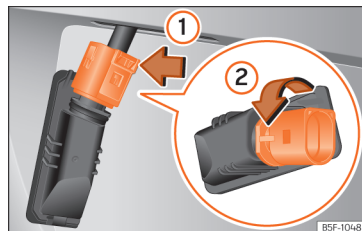

Fig. 119 Number plate light: detach the bulb holder.
3. Turn the connector lock »» Fig. 119 in the direction of arrow ① and pull on the connector.
4. Rotate the bulb holder in the direction of arrow ② and extract it with the bulb.
6. Insert the bulb holder in the number plate light and turn in the opposite direction of arrow ② until it stops.